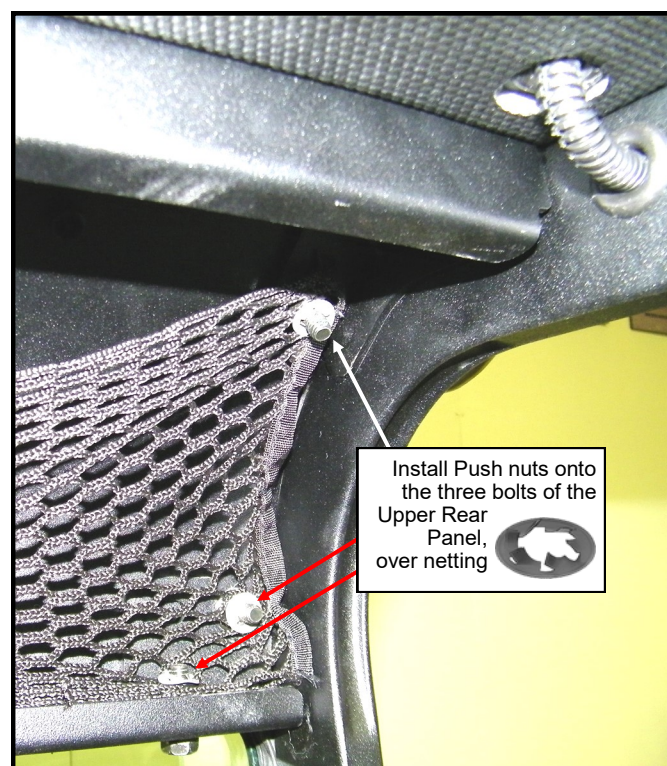

Figure 11.1: Cargo net push nuts
- 11.1 Place one end of the cargo net over the three bolts at one side of the Upper Rear Panel **(Figure 11.1)** and install a Push Nut over each of the bolts and netting.